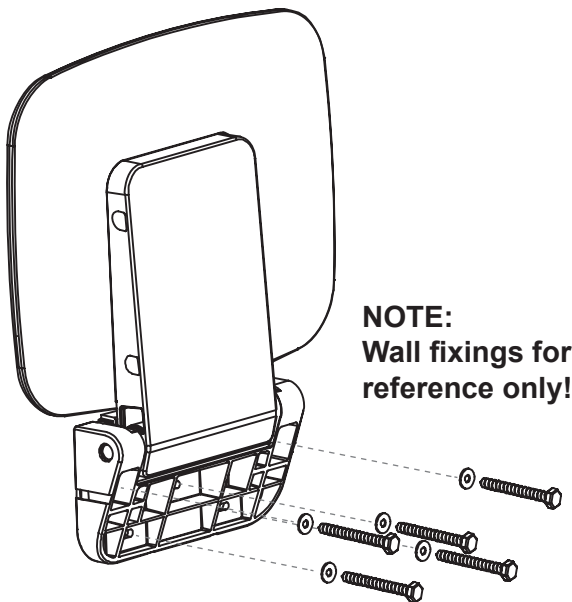

Fig.1
3. Place the shower seat in the desired position on the wall and using the hole centres located on the wall bracket as a template, mark the screw fixing positions on the wall surface, ensuring the product is level. **ALL FIXING HOLES MUST BE USED** (See Fig.1).